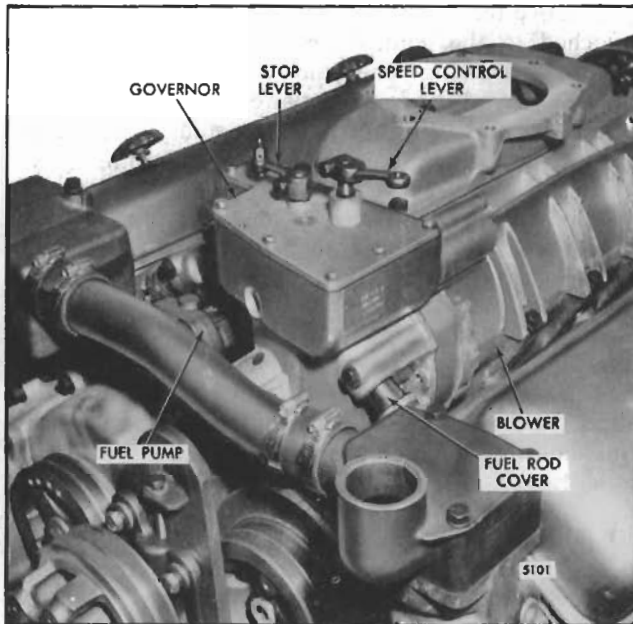

Fig. 2 - Limiting Speed Mechanical Governor Mounting (6 and 8V Engines)
3. Disconnect the control linkage from the speed control and stop levers (Fig. 2).